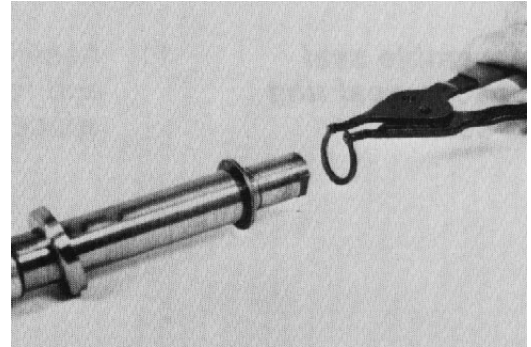

Figure 67
5. Install the snap ring onto the input shaft if it was removed (Fig. 67).